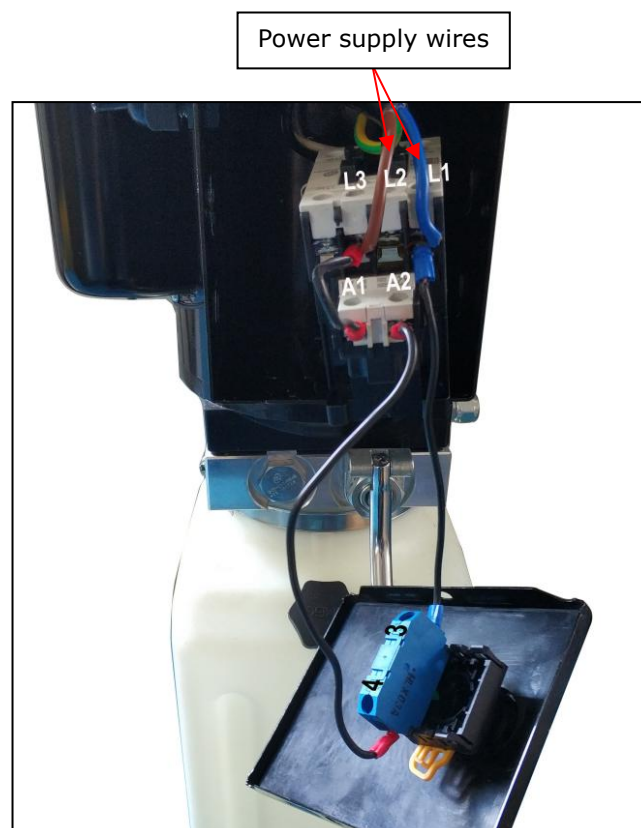

Fig. 32
2. Connection step (See Fig. 32)